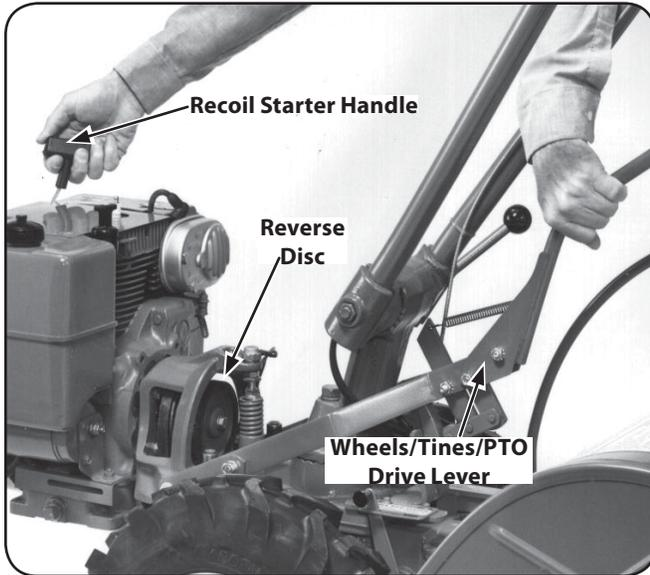

Figure 6-21
- Use your left hand to hold the Wheels/Tines/PTO Drive Lever up in REVERSE, while briefly pulling out the engine recoil starter. The reverse disc should turn the lower pulley. See Fig. 6-21. If not, or it requires a lot of pressure to hold the lever up in REVERSE, then the reverse adjustment bolt must be adjusted downward. When correctly adjusted, the Wheels/Tines/PTO Drive Lever should pop out of reverse when the lever is released, but not require exceptional effort to hold it up in the reverse position.